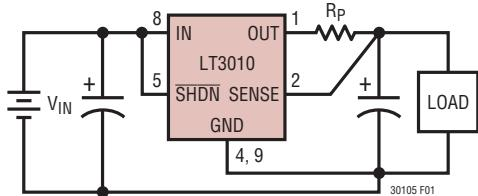

Figure 1. Kelvin Sense Connection
**SENSE (Pin 2):** Sense. For the LT3010-5, the SENSE pin is the input to the error amplifier. Optimum regulation will be obtained at the point where the SENSE pin is connected to the OUT pin of the regulator. In critical applications, small voltage drops are caused by the resistance ( $R_P$ ) of PC traces between the regulator and the load. These may be eliminated by connecting the SENSE pin to the output at the load as shown in Figure 1 (Kelvin Sense Connection). Note that the voltage drop across the external PC traces will add to the dropout voltage of the regulator. The SENSE pin bias current is  $10\mu\text{A}$  at the nominal rated output voltage.